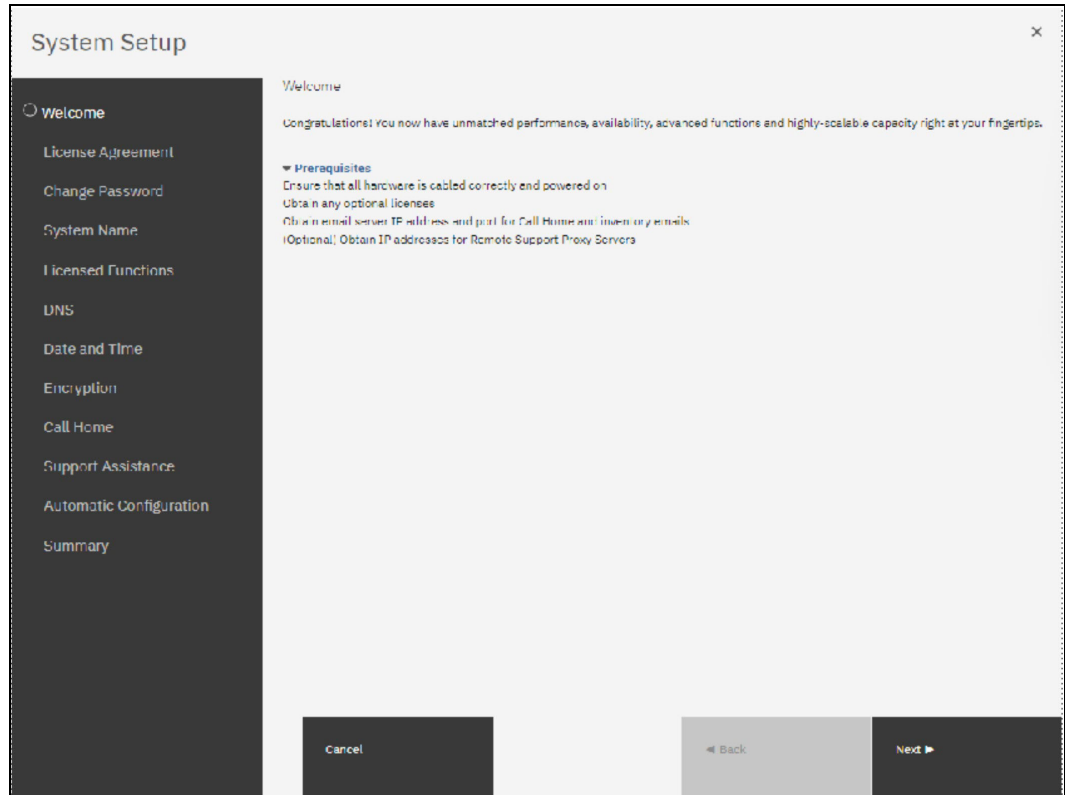

Figure 2-24 System Setup Welcome page
10. The system saves the entered information and asks you to log in again. After login, you will be guided to the System Setup page. See Figure 2-24 on page 35.